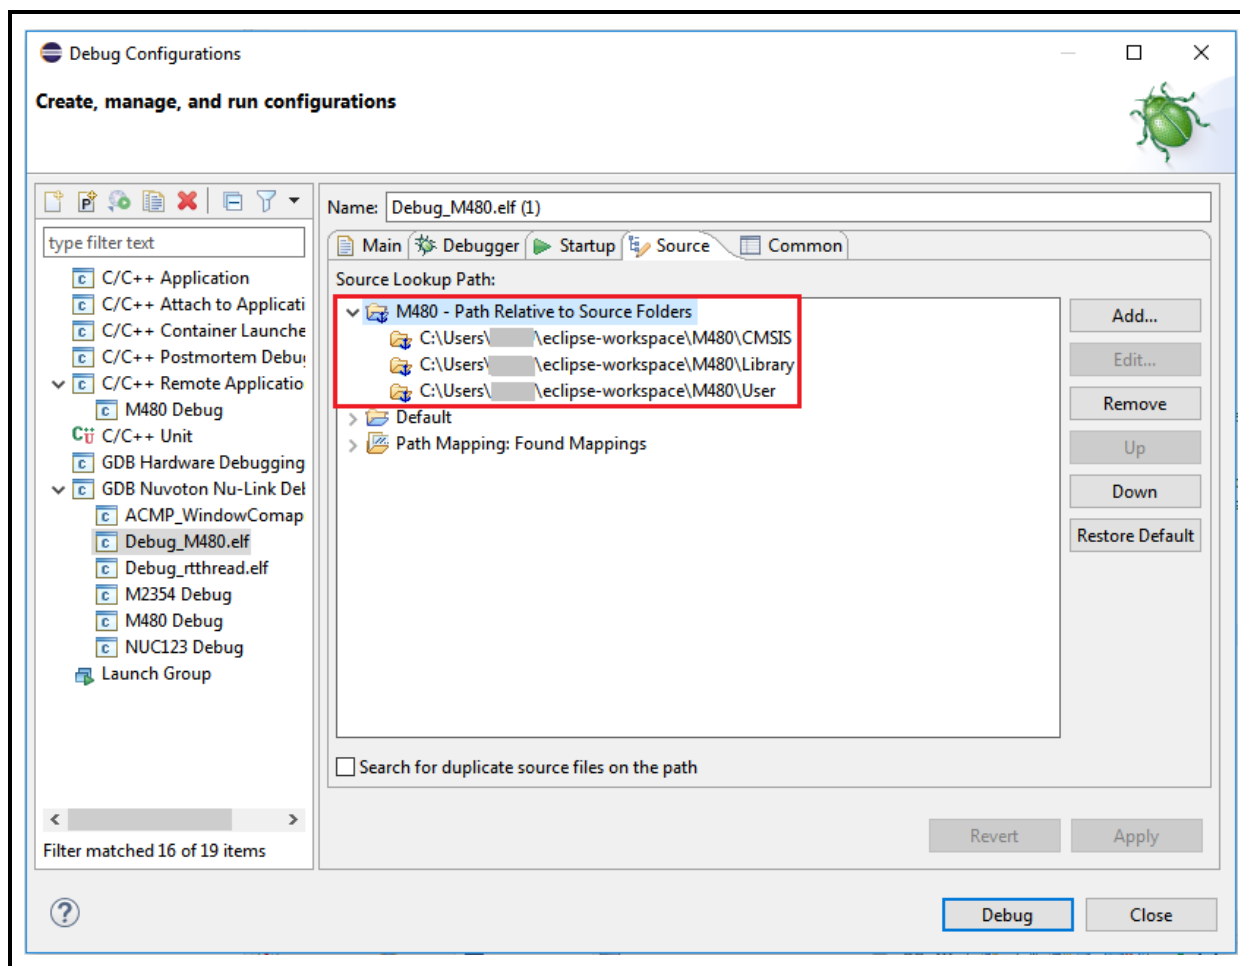

Figure 3-31 Adding Source Lookup Path
6. Add source lookup path relative to source folders (referring to Figure 3-31).